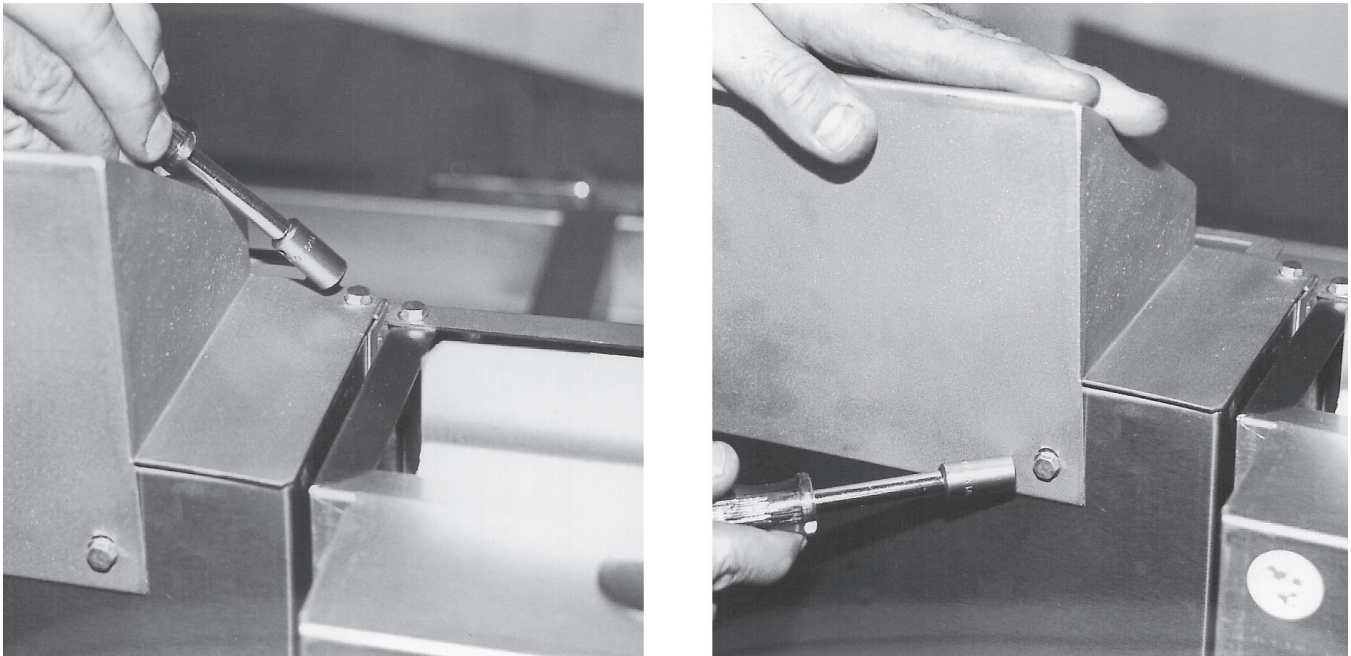

Fig. 51
2. With a $\frac{5}{16}$ " socket, remove (4) screws holding the faucet hosing to the rinse station. (Fig. 51)